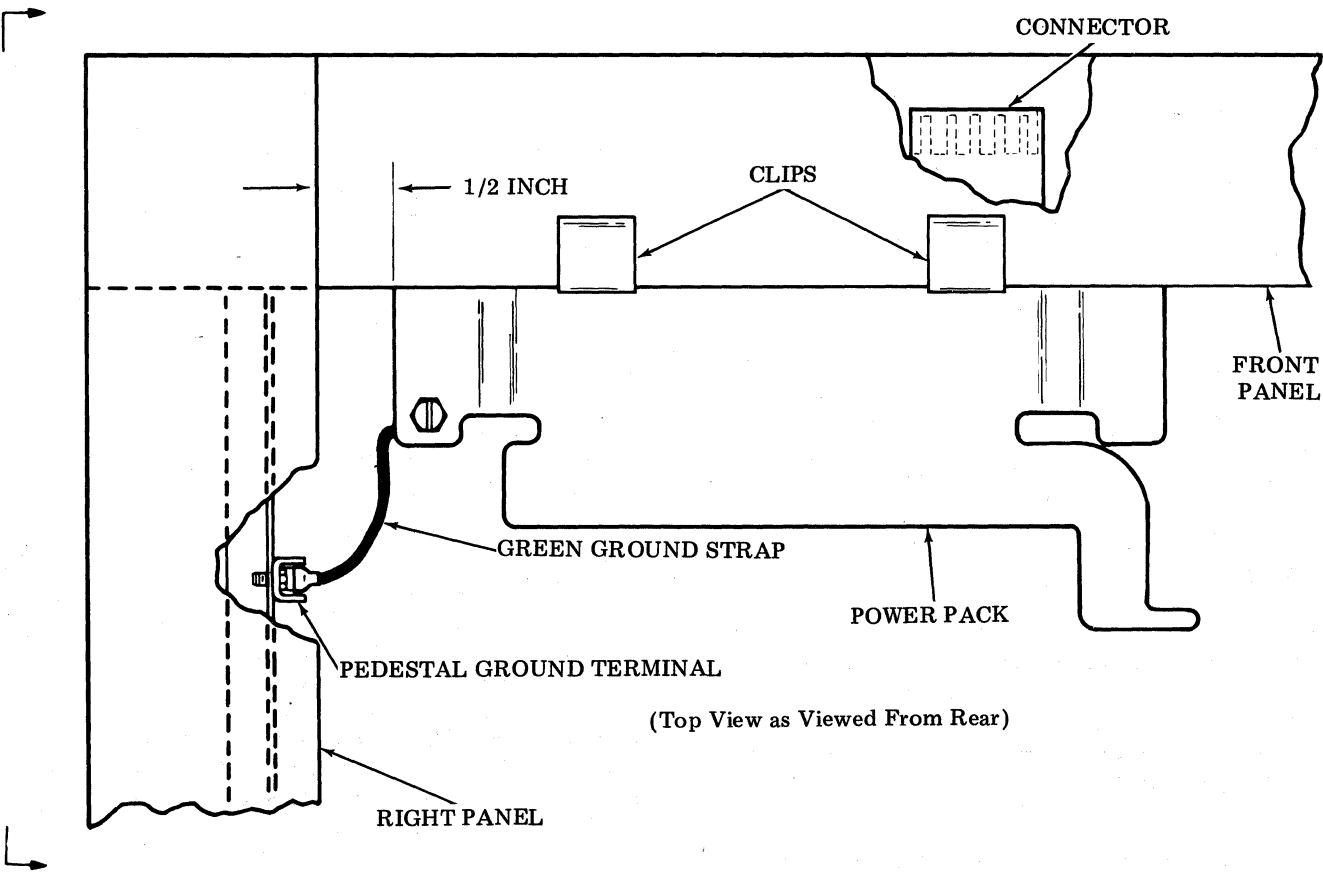

Figure 16 - Power Pack Assembly
5.01 The sets have the power pack for the tape reader mounted in the call control unit; therefore, no installation is required. Should it be desirable to place other equipment in the call control unit, the reader power pack may be mounted inside the stand, underneath the base. Two clips attach the power pack to the stand at the left front corner when the set is viewed from the rear. See Figure 16.